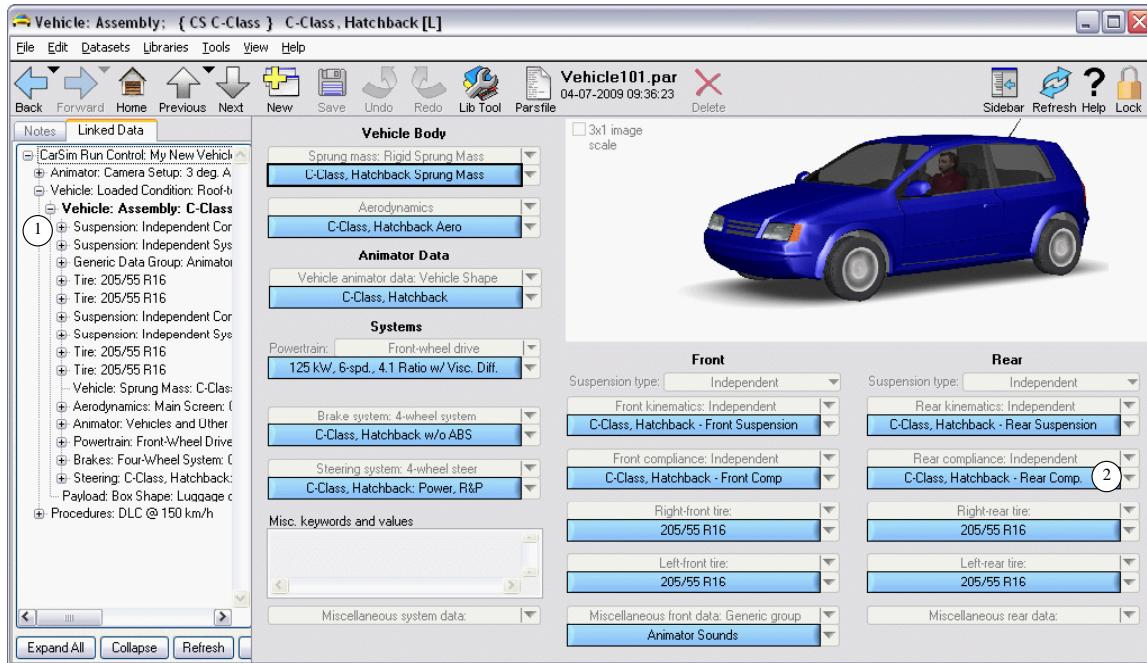
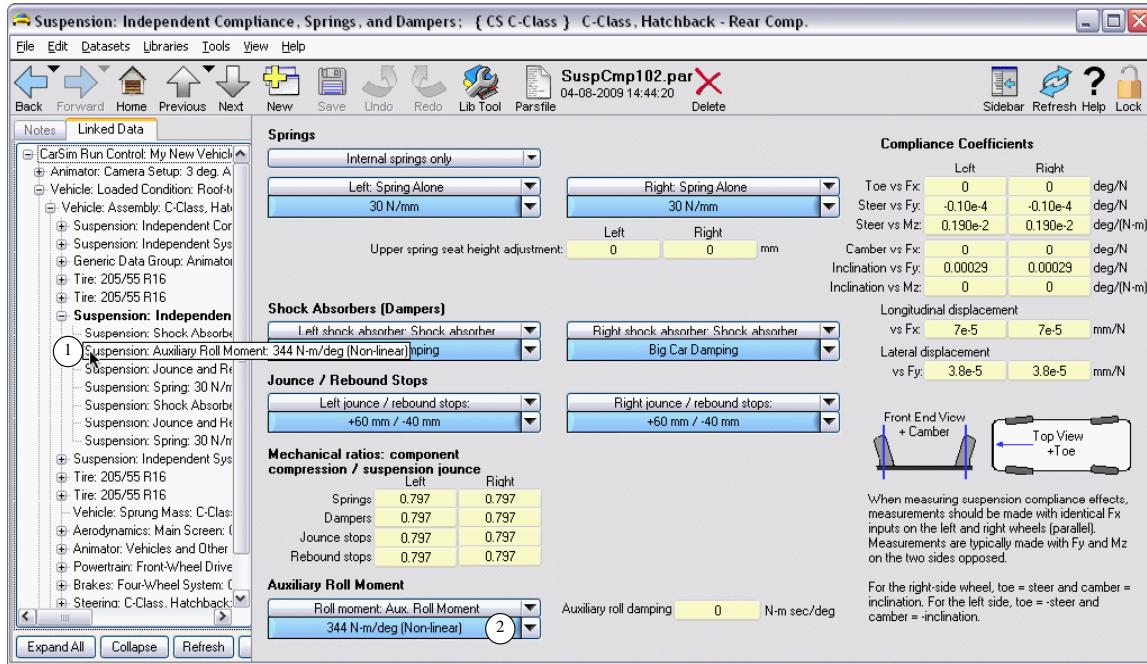
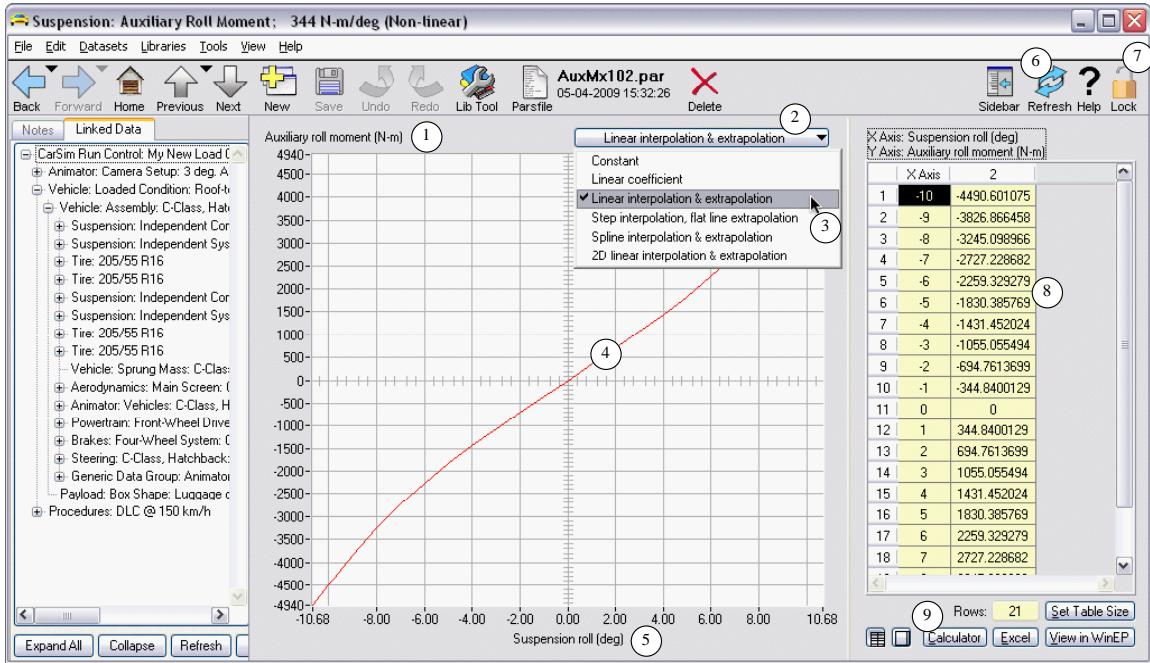
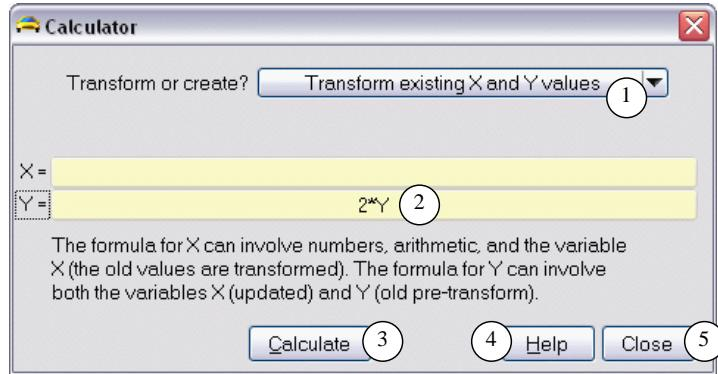

Figure 41. The Vehicle Assembly screen.
Figure 42. Suspension compliance screen.
Figure 43. Nonlinear table for the auxiliary roll moment.
Figure 45. The calculator tool for tabular data.
3. Click on the blue button for the vehicle ② to go to the vehicle assembly dataset (Figure 41). Notice that the **Linked Data** display now has the fourth line highlighted in bold, indicating that the **Vehicle Assembly** screen is now in view.
4. Click on the suspension rear compliance blue link ② (Figure 41) to view that dataset (Figure 42). Notice that the **Linked Data** sidebar is updated to show the current dataset in bold.
5. Click on the Auxiliary roll moment blue link ② (Figure 42) to view that dataset (Figure 43).
- Use the Undo button ② to revert the dataset back to its original state. Keep clicking until the '*' suffix disappears from the window title. The screen should once again look like it did in Figure 43.
- Click the **Calculator** button ⑨ (Figure 43) to bring up the CarSim calculator tool for tabular data (Figure 45).